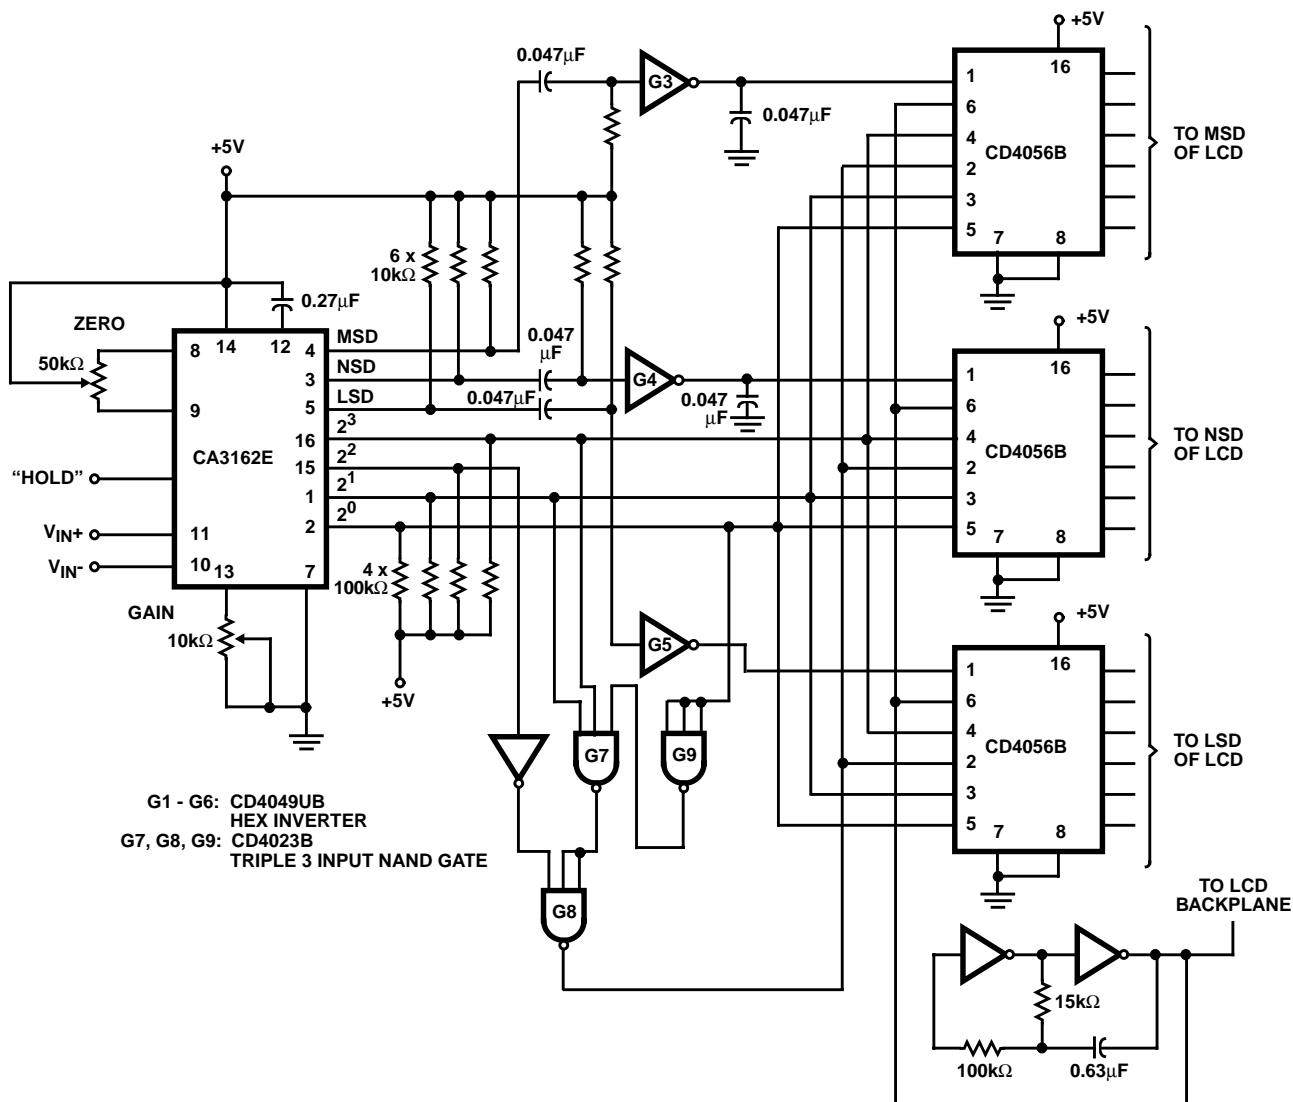

FIGURE 3. TYPICAL LCD APPLICATION
Figure 3 shows the CA3162E in a typical LCD application. LCDs may be used in favor of LED displays in applications requiring lower power dissipation, such as battery-operated equipment, or when visibility in high-ambient-light conditions is desired.
The circuit as shown in Figure 3 using G7, G8 and G9 will decode the negative sign (-) as a negative sign (-), and the positive overload indicator (E) as "H".